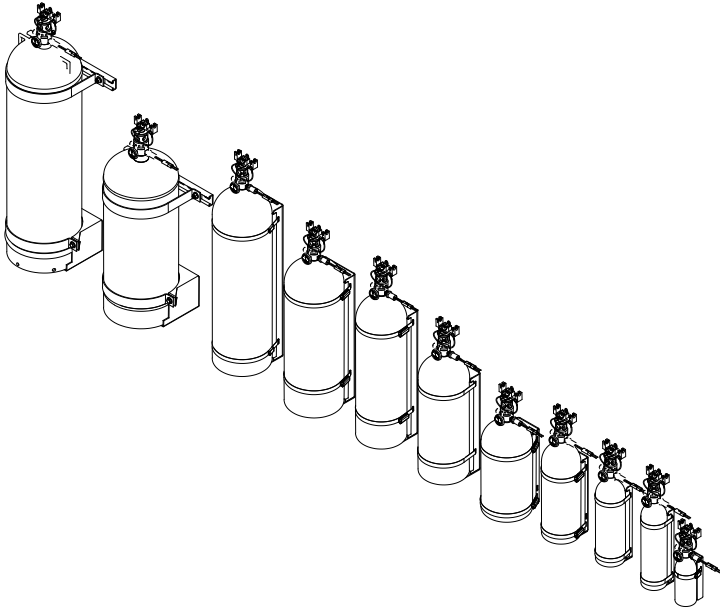

Figure 1
Step 4 Loosen mounting bracket cylinder holding straps (Figure 1) and remove cylinder from racket. Although the sensor valve / detector is protected, care should be exercised to avoid striking the sensor valve / detector.